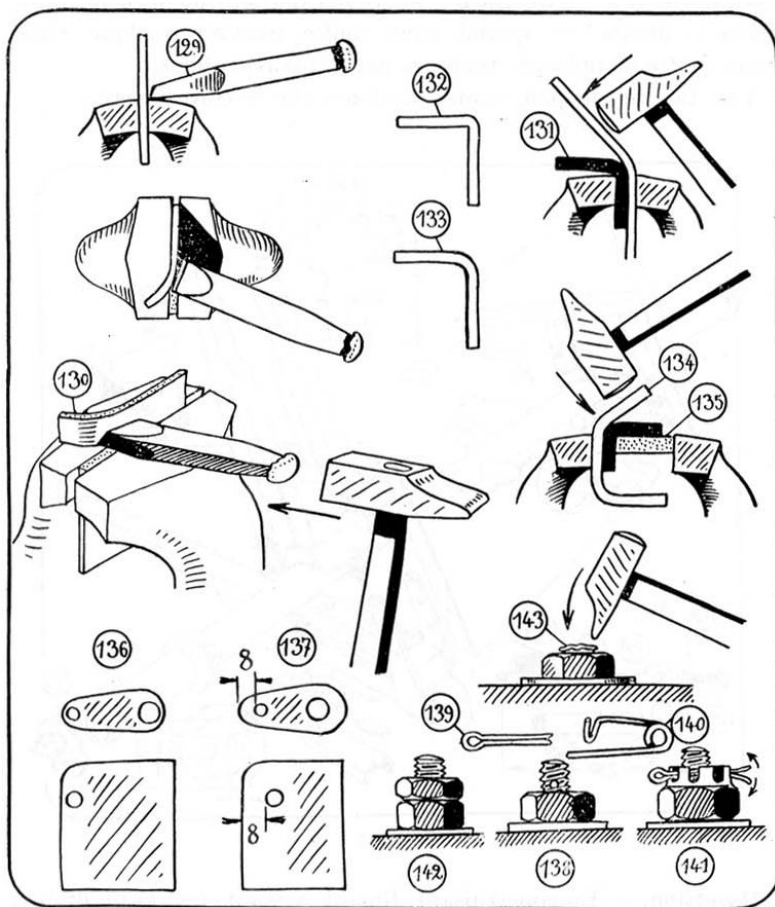

Figure 3.20: Fashioning sheet steel fittings
steel sheet and mark the outline with sharp chalk or a grease crayon. Clamp the sheet in a vise with straight edges of at least 100mm, and cut it with a sharpened chisel as shown at (129) in figure 3.20. This will make a clean, accurate cut. Hold the chisel almost horizontal.
**Bending** — One should never bend steel sheet at a sharp angle, even the smallest piece. Disaster hides in these bends, because the excessive hammering “kills” the metal before it has been used. To avoid it, place between the piece to be bent and the jaw of the vise a piece of the same thickness that has already been bent correctly. (132)